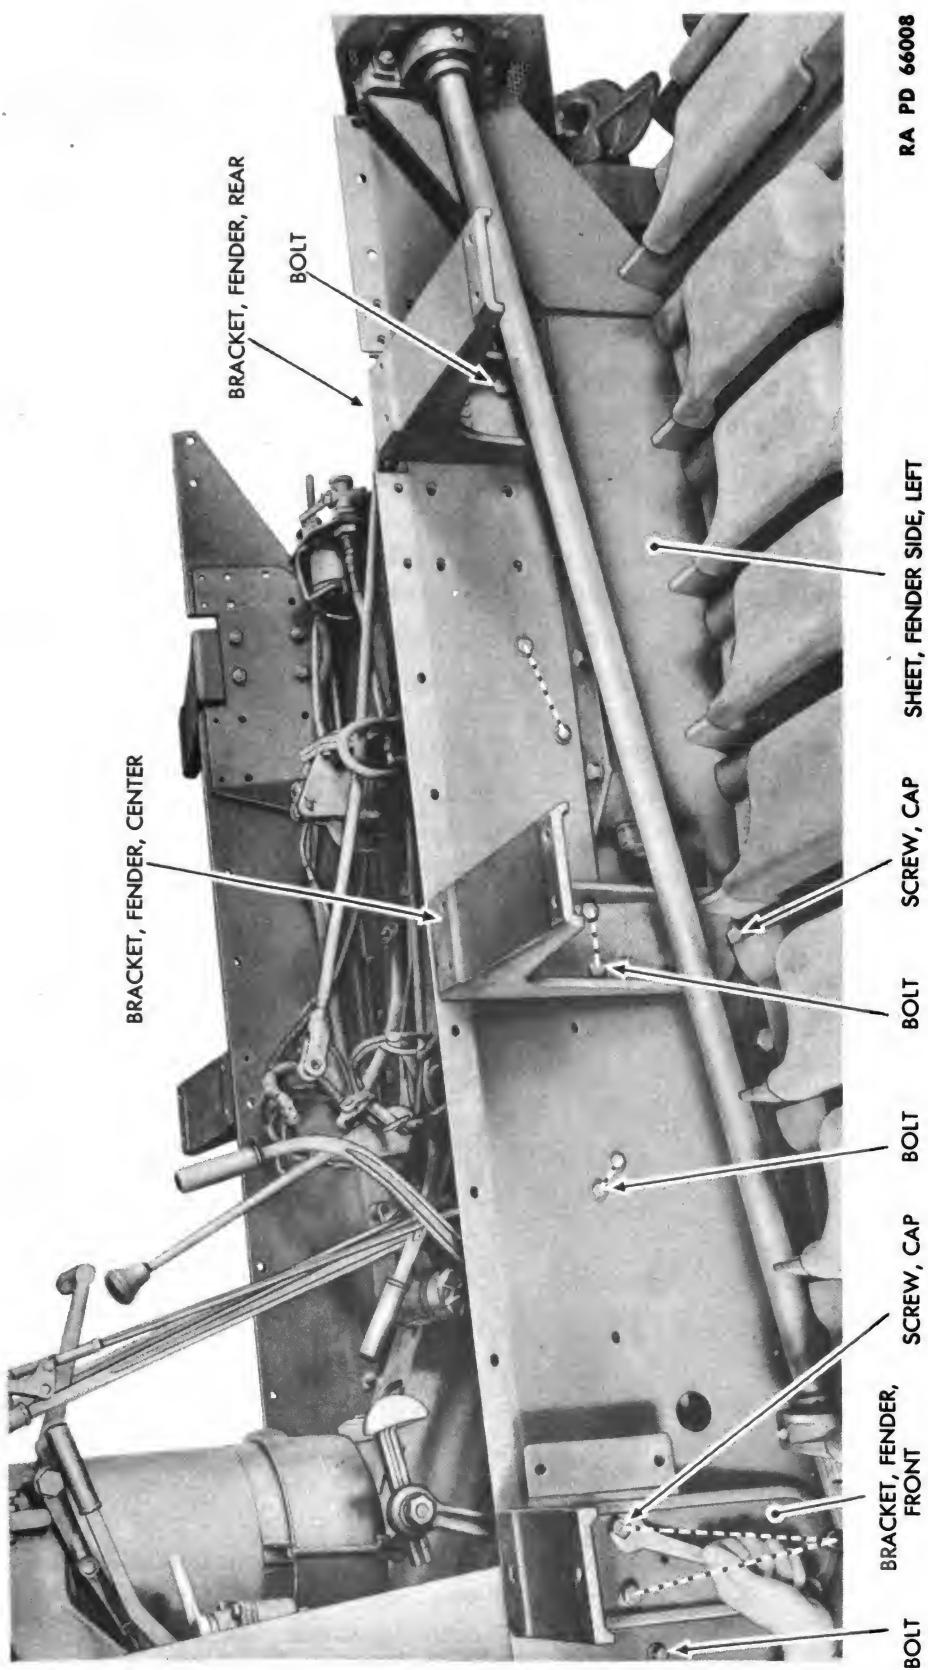

Figure 193 – Left Fender Brackets and Left Fender Side Sheet Removal
(14) REMOVE RIGHT FENDER BRACKETS AND FENDER SIDE SHEET (fig. 193).
(a) The right front fender bracket is removed with fender, as outlined in step (11) above. Bolts and cap screws which hold remaining right brackets and fender side sheet correspond to those identified on figure 193.
(fig. 193).**